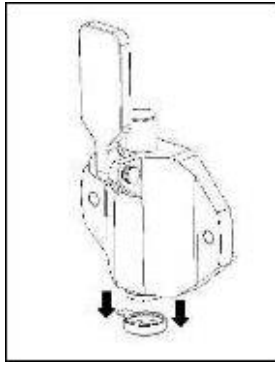

Fig. 50
- Remove the device that gives the star-shaped form to the ice cream from the flange (Fig. 50).